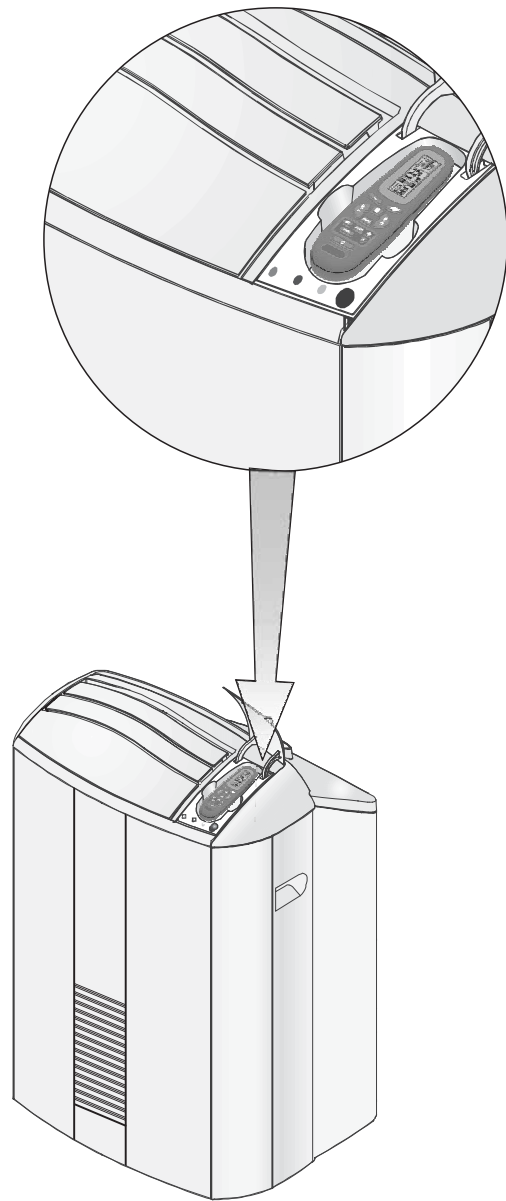

Figure 14. Remote control application
- Remove the batteries from the remote control unit, as shown on figure 14. Use two 1.5 volt, size AAA batteries.
Use the remote control compartment when the unit is not in use. The remote control can be flipped in or out of its compartment. (See figure 14).